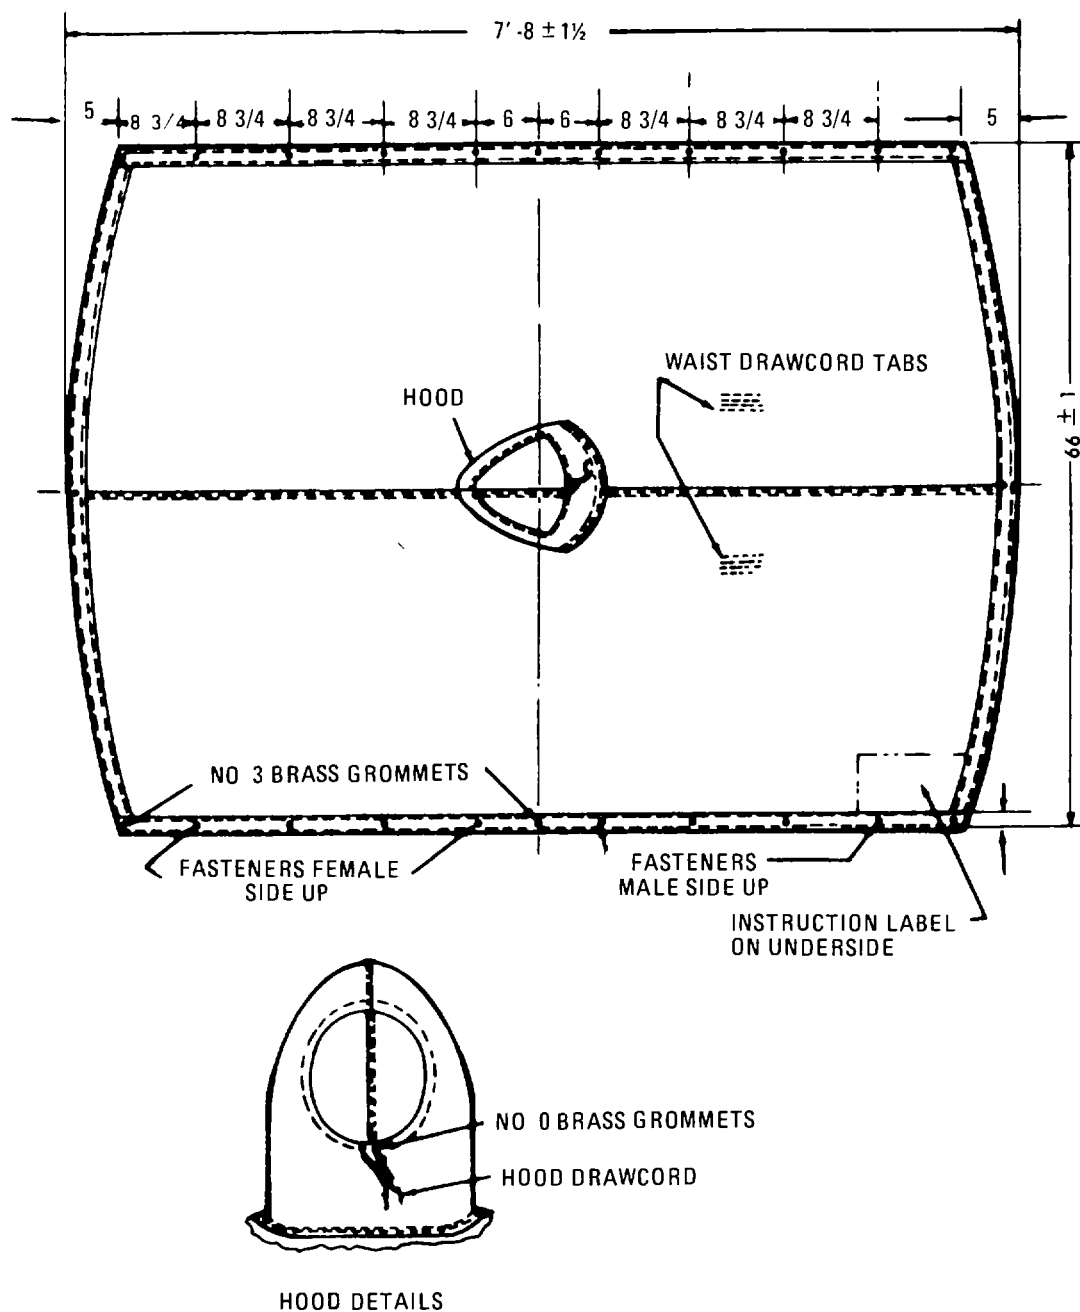

Figure 13-1. Poncho, coated nylon, olive green shade 207, heavy duty MIL-P-3033.
- a. Poncho, Heavy Duty with hood; vinyl coated, OG 207. The vinyl coated heavy duty poncho (NSN 8405-00-290-0550) is fabricated from a 1 6 ounce per square yard (54.3 gram per square meter) nylon twill fabric coated on both sides with a thermoplastic vinyl chloride coating. The poncho measures 92 inches (233.7 cm) long by 66 inches (167.6 cm) wide and weighs approximately 2 pounds 11 ounces (0.76 kg). The ends are curved and the neck is positioned forward of the center line of the poncho. The hood is hemmed and fitted with a drawcord and slide keeper. A drawcord is located at the waist to allow front length adjustment. The outside of the poncho is finished with hems or separate facings, fitted with grommets and snap fasteners (fig. 13-1).